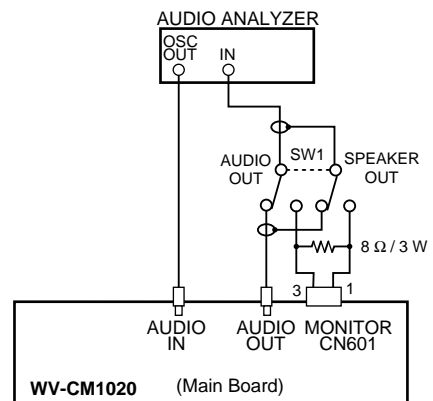

Fig 3-2
- The Fig. 3-2 shows the connecting diagram for the Audio section adjustment procedure.